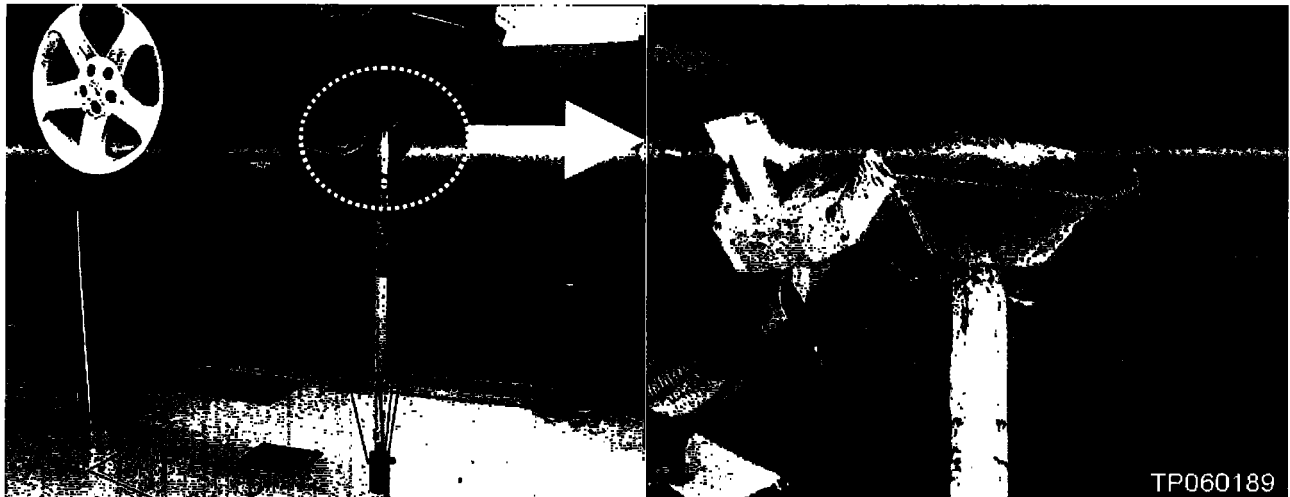

Figure 24
17. Place a support jack (jack stand) under the front of the vehicle to help stabilize the vehicle on the lift (see Figure 24).